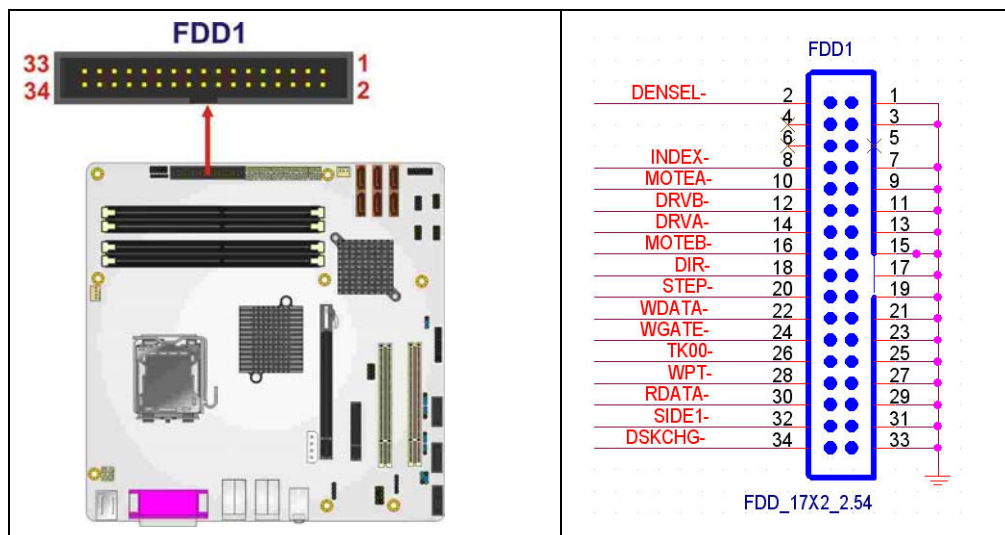

Figure 4-8: 34-pin FDD Connector Location
- CN Location:** See Figure 4-8